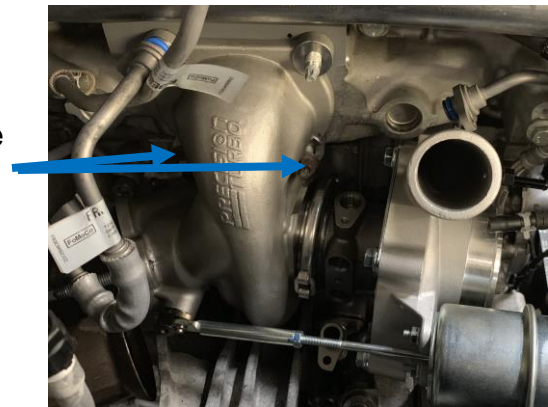

Fig. 19
2. Re-install and torque the two bottom nuts. See Fig. 19